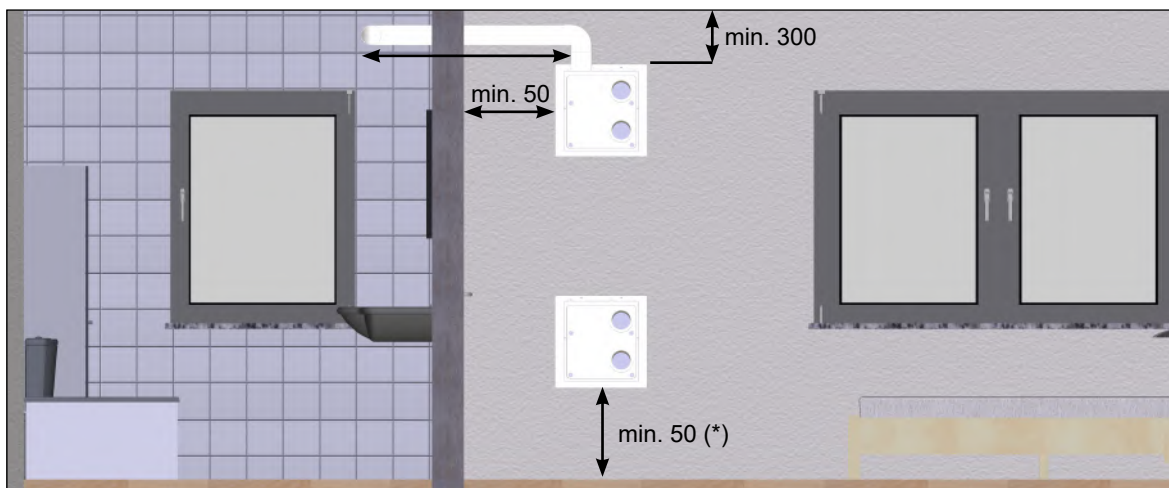
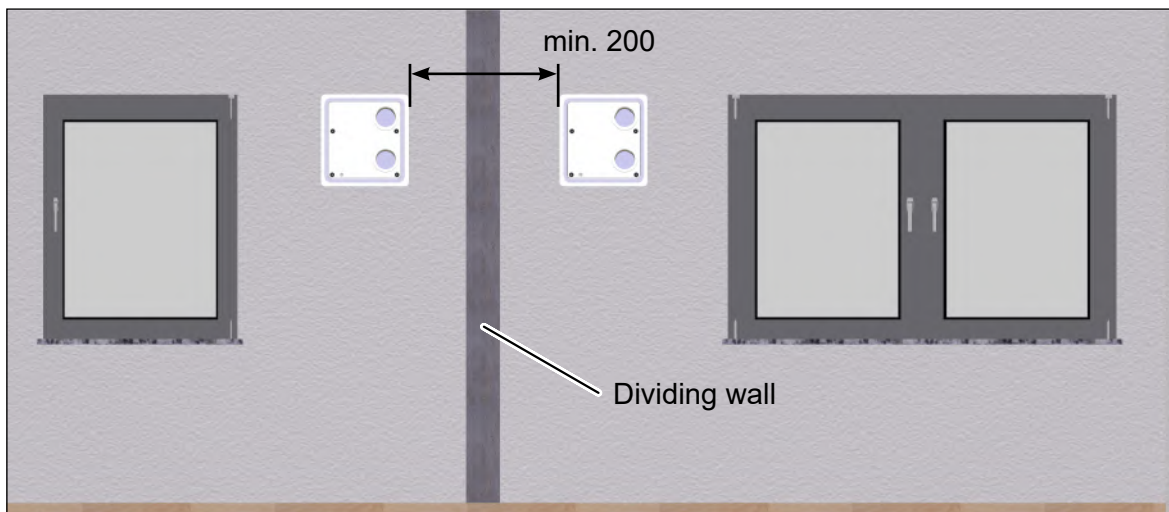

Fig. 5: Minimum distances and options for positioning the M-WRG-M/MB-FK1 / FK2 installation kit, dimensions in millimetres
Fig. 6: Lateral minimum distance between two wall boxes, dimensions in millimetres
- The flush-mount installation kit (wall box) must be installed so that the openings for the flat ductwork connections always point up (see Fig. 5).
- ▶ Maintain the following minimum distances (see Fig. 5 and Fig. 6):
- The distance between the side and bottom edges of the wall box and adjacent surfaces should be at least 50 mm (exception: if a condensate connection is used, see (*) in Fig. 5 on page 10). The ventilation unit will be easier to operate if this minimum distance is maintained. It also allows the air filter to be replaced without obstruction.